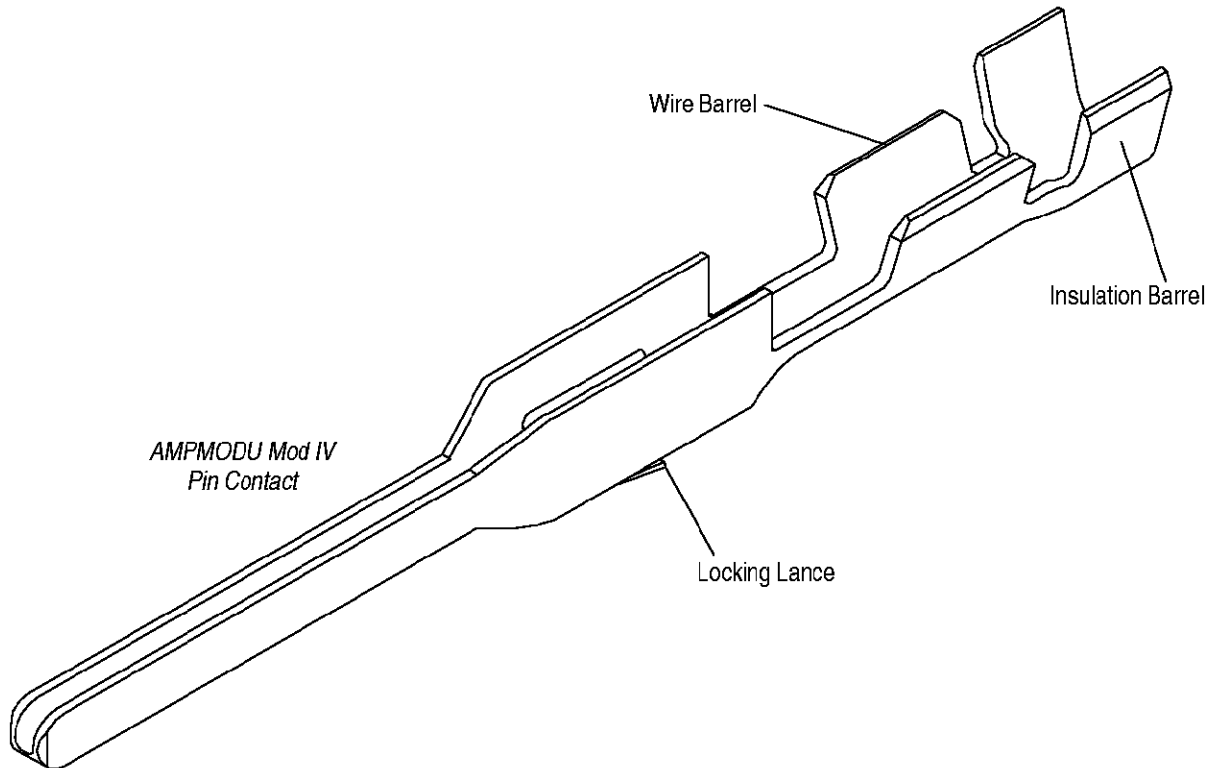

Figure 1
Figure 1 provides terminology for contact features that will be used throughout this specification. Use of these terms will facilitate assistance when corresponding with Tyco personnel.
- Added new art and information in Figures 1, 2, 3, 5, 6, 7, and 8